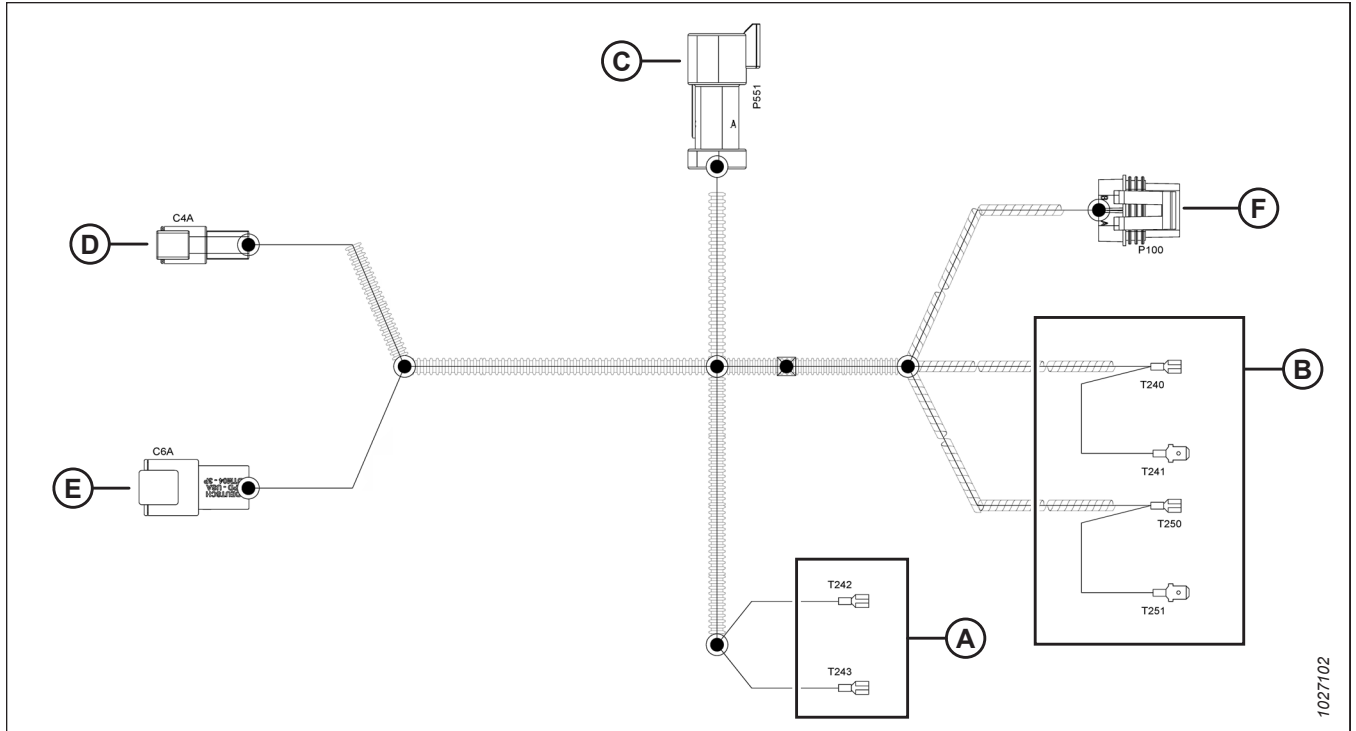

Figure 5.60: Cab Draper Control Harness (MD #304210)
For more information, refer to Figure 5.60, page 99.
24. Connect the feed end of cab draper control harness ([B] in Figure 5.60, page 99) to the auxiliary power outlet strip as follows: